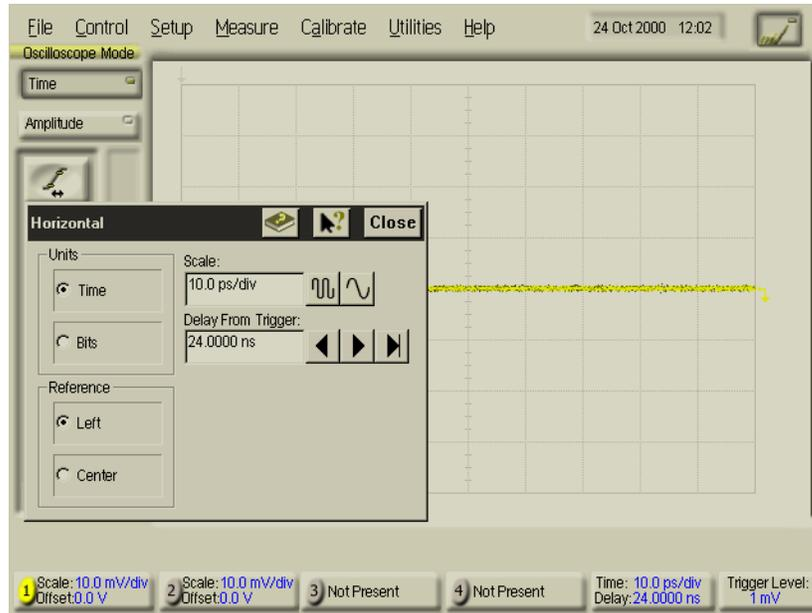

Figure 2-2. Setting Time and Delay for Measuring Time Interval Accuracy
- 6 On the DCA screen, press Time Delay, set the scale to 10 ps/div, and set the Delay From Trigger to 24 ns. See Figure 2-2.